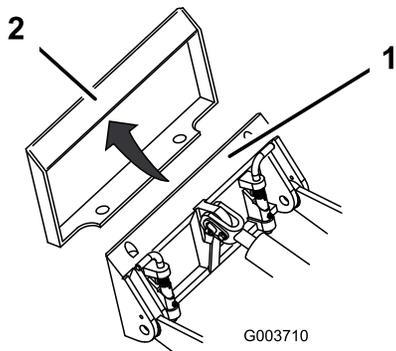

Figure 21
4. Position mount plate into the upper lip of the attachment receiver plate (Figure 21).